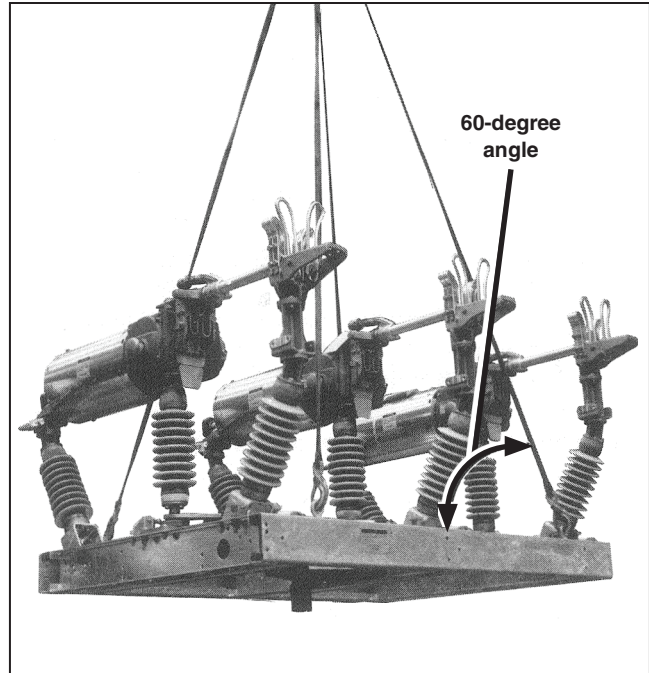

Figure 5. A method of hoisting, using lifting slings.
- STEP 2.** Attach suitable lifting slings to the four lifting eyebolts furnished on the mounting-frame weldment. See Figure 5. Be sure the eyebolts are screwed in tightly. Do not apply lifting force to any eyebolt at an angle less than 60° from the horizontal. Avoid sudden starts and stops. Hoist this assembly onto the mounting pedestal, making sure the lifting slings do not bear on the center pole-unit.